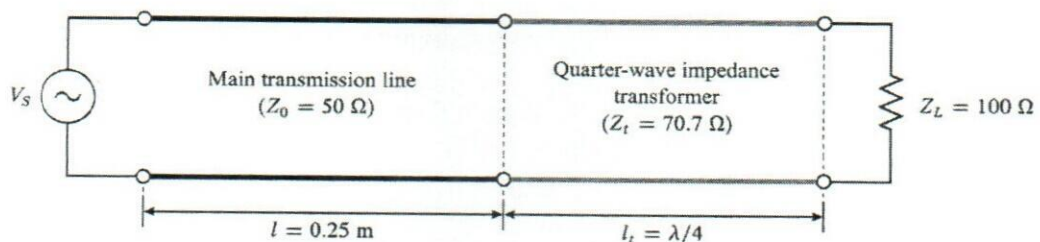

Figure 2
- iii) Figure 2 shows a 50Ω transmission line connected to a 100Ω load through a quarter-wave impedance transformer having a characteristic impedance of 70.7Ω . The main transmission line has a physical length of 0.25 m , and the operating wavelength is 1.0 m .